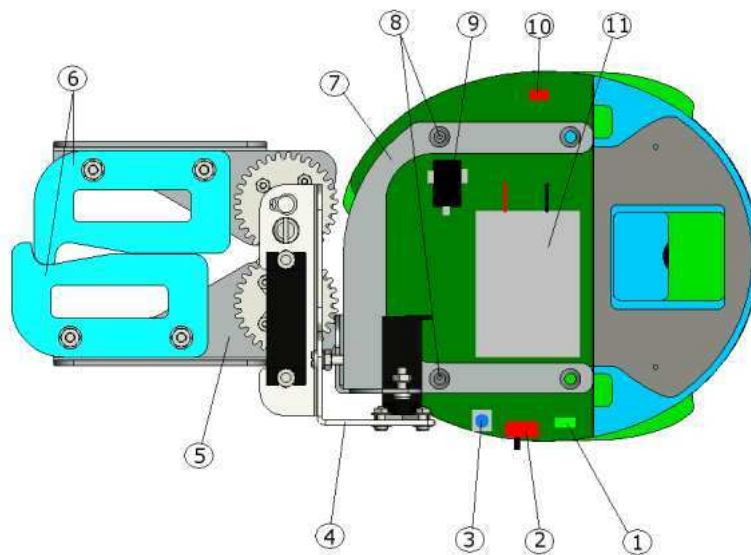

Figure 2.1: Overview of the turret layout
- Screw the two screws provided with the gripper on the fixings (see number 8 fig 2.1)